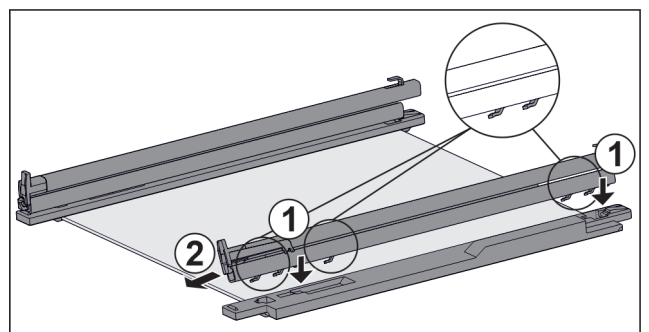

Fig. 131 Glass shelf with rails and retaining parts
- ▶ Place rail hooks onto the openings of the **left** retaining part. *Fig. 131 (1)*
- ▶ Push rail forwards. *Fig. 131 (2)*
- ▶ Place rail hooks onto the openings of the **right** retaining part. *Fig. 131 (1)*